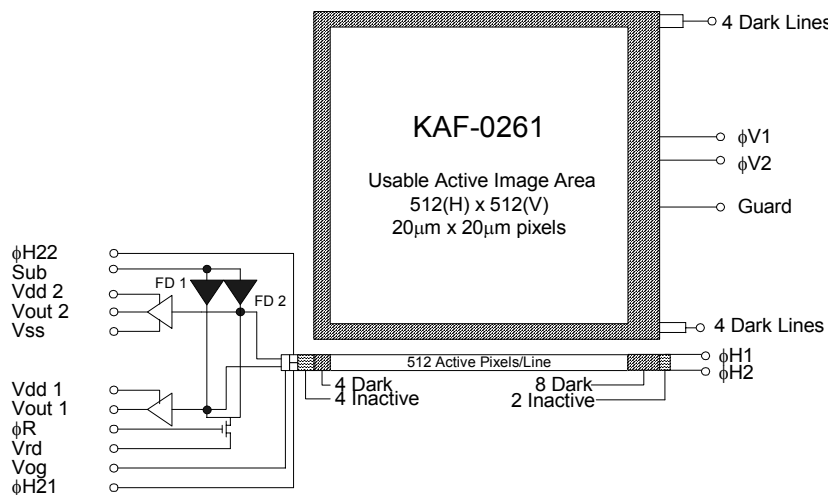

Figure 1 - Functional Block Diagram
The KAF-0261E consists of one vertical (parallel) CCD shift register, one horizontal (serial) CCD shift register and a selectable high or low gain output amplifier. (See Figure 1.) Both registers incorporate two-phase buried channel CCD technology. The vertical register consists of $20\mu\text{m} \times 20\mu\text{m}$ photocapacitor sensing elements (pixels) that also serves as the transport mechanism. The pixels are arranged in a 512(H) x 512(V) array; an additional 12 columns (4 at the left and 8 at the right) and 8 rows (4 each at top and bottom) of non-imaging pixels are added as dark reference. There is no storage array, so this device must be synchronized with strobe illumination or shuttered during readout.